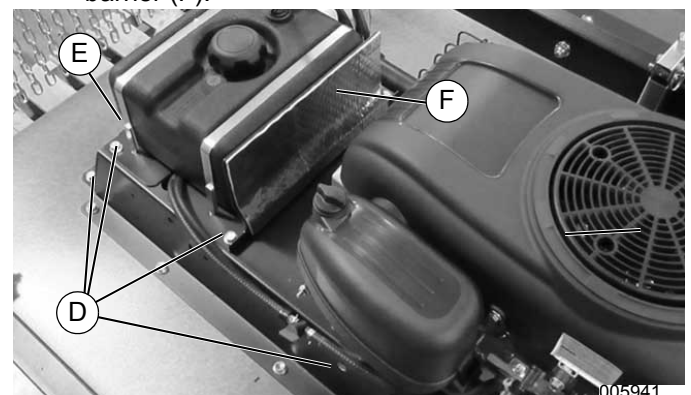

Figure 4-9. Removing Gas Tank Plate
2. Using a 5/16" nut driver, remove cable clamp (B).
4. See Figure 4-9. Using a 9/16" wrench, remove the eight bolts (D) securing gas tank plate (E) and heat barrier (F).